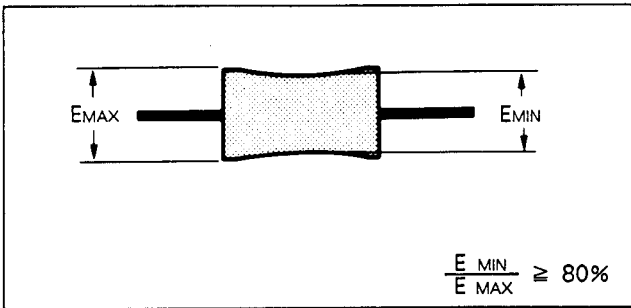

Fig. 7-85.
- 3) Confirm that the RF waveform amplitude minimum value ( $E_{MIN}$ ) at this time is more than 80% of maximum value ( $E_{MAX}$ ). (See Fig. 7-85.)